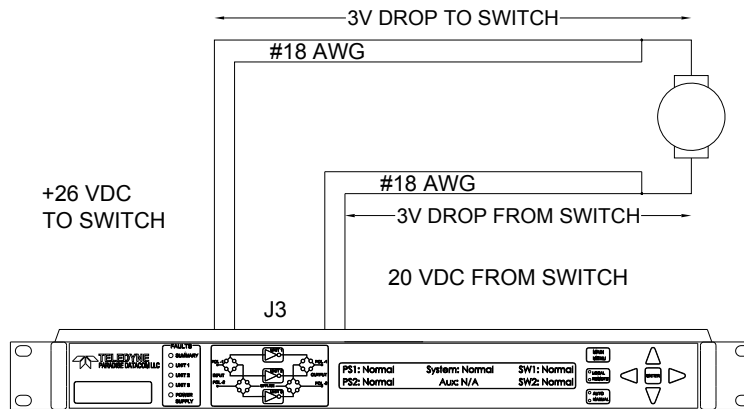

Figure 5-2: Cable Losses to Transfer Switch
Teledyne Paradise Datacom control cables utilize 20 conductors of #18 AWG stranded wire. The control cable schematic is shown in **Figure 5-2**. The resistance of #18 AWG stranded wire is 6.5 ohms per 1000 feet. The controller switch connector (J3) allows contacts for two wires per switch connection. Therefore, two conductors can be paralleled for both the source and return lines for the transfer switch. With a maximum allowable voltage drop of 6 volts, this equates to a 3 volt drop in the source wires and 3 volt drop in the return wires. This is shown schematically in **Figure 5-2**. Using four (4) parallel #18 AWG conductors gives a resultant cable resistance of 1.6 ohms per 1000 feet, or 0.0016 ohms per foot.